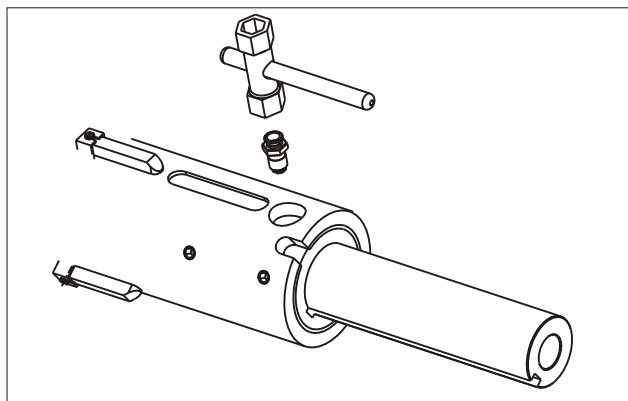

Figure 4: Checking Non Return Valve (NRV) With 19 X 22 Box Spanner
- c. After trying both A & B Solutions, if you still face the problem then check for the Non Return Valve (NRV). NRV might be leaking. For testing, fill the full air in the core holder and then fill the valve input area with water. The air bubbles will start coming near and around the NRV if the valve is leaking. Then, immediate replacement is needed. (Figure 4.)